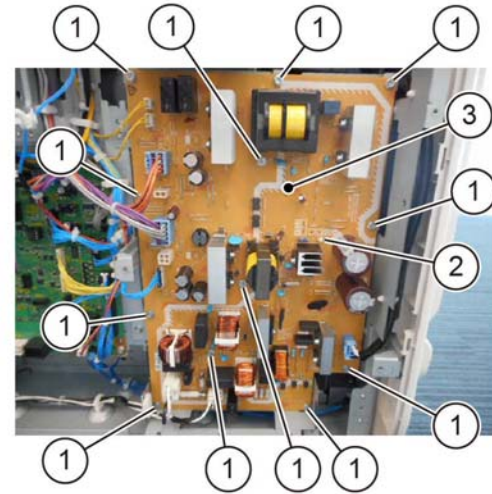

Figure 3 LVPS removal
4. Remove the LVPS, Figure 3:
- a. Remove 12 screws (1).
- b. Release the stand off (2), then remove the LVPS (3).